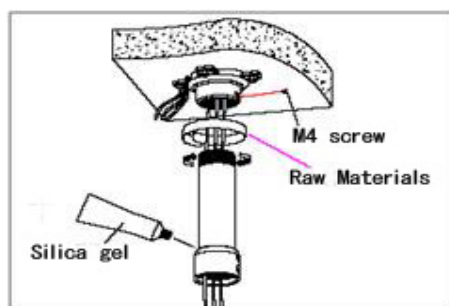

Fig 21
c. As shown in the fig 21, tighten the bracket with it's base.